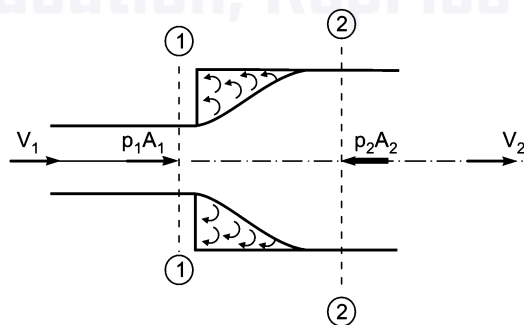

Fig. 11.1 Sudden enlargement.
**11.4.1 Loss of Head Due to Sudden Enlargement.** Consider a liquid flowing through a pipe which has sudden enlargement as shown in Fig. 11.1. Consider two sections (1)-(1) and (2)-(2) before and after the enlargement.
Due to sudden change of diameter of the pipe from  $D_1$  to  $D_2$ , the liquid flowing from the smaller pipe is not able to follow the abrupt change of the boundary. Thus the flow separates from the boundary and turbulent eddies are formed as shown in Fig. 11.1. The loss of head (or energy) takes place due to the formation of these eddies.